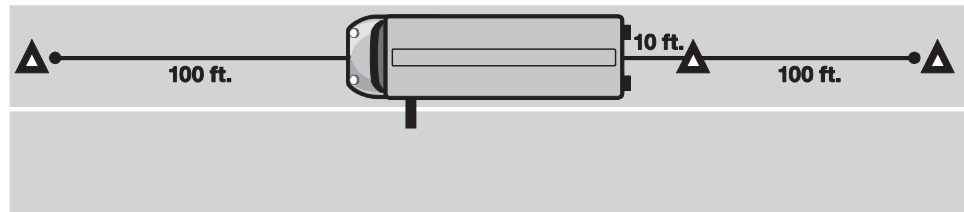

Figure 8-5. Warning Device Placement—Two-Lane Traffic or Undivided Highway.
- If the vehicle is not moved, protect the scene from traffic and people so evidence is not destroyed. See Figures 8-5, 8-6, and 8-7 for warning device placement.